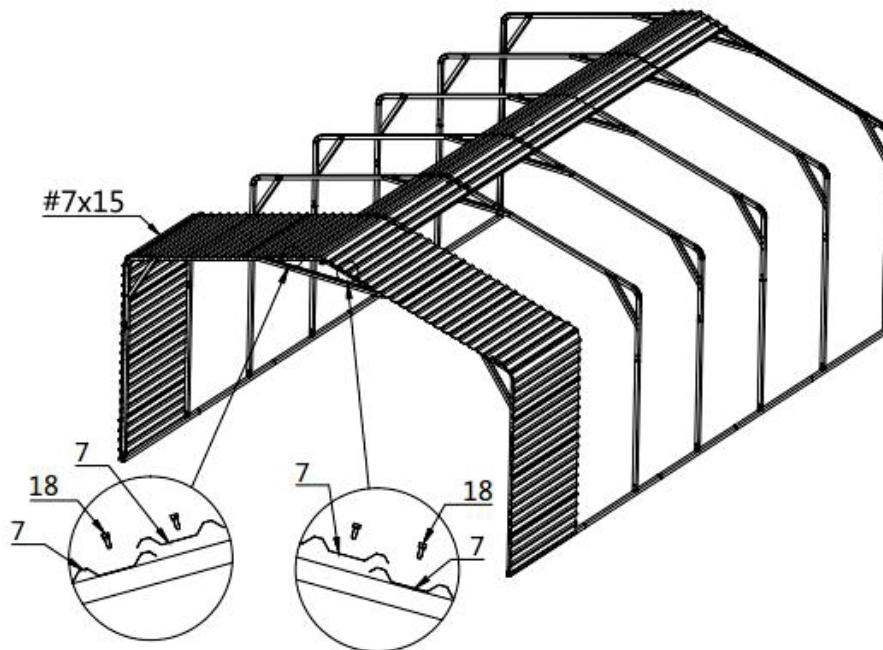

Figure 9
- Install the first color steel tile. Take the first colored steel tile at the top as the benchmark, ensure that both ends of each colored steel tile are aligned, and lock it on the truss with (#18) self tapping screw (refer to figure 9).